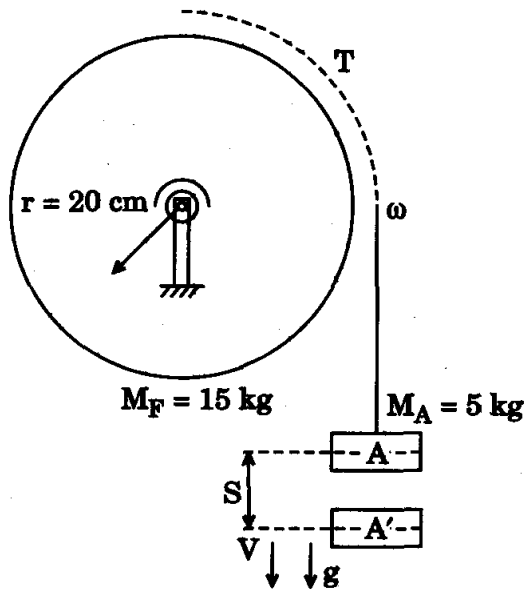

Figure 7
7. (a) A flywheel of mass 15 kg and radius 20 cm is wound by a rope which carries a weight of mass 5 kg at its free end as shown in Figure 7. Determine the angular acceleration of the motion, assuming gravitational acceleration = 10 m/sec^2 for